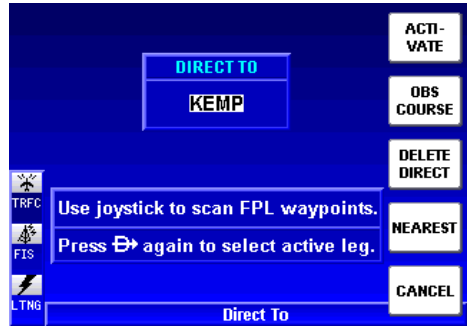

Figure 1-151
1. Press the Direct-To Key to display Figure 1-151.